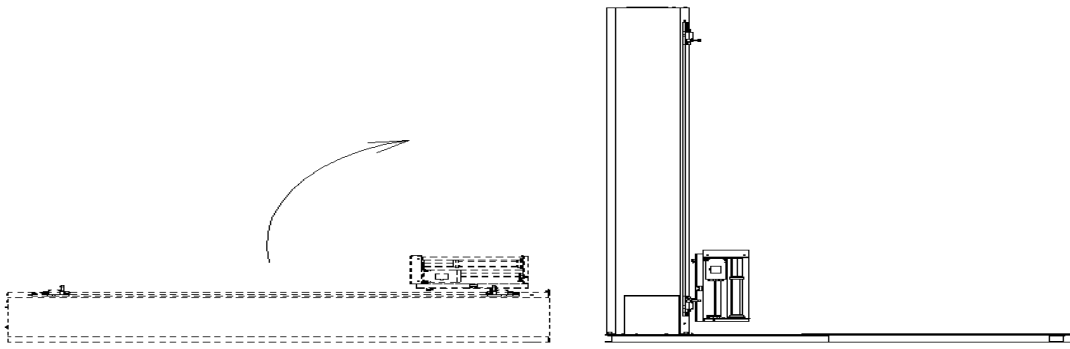
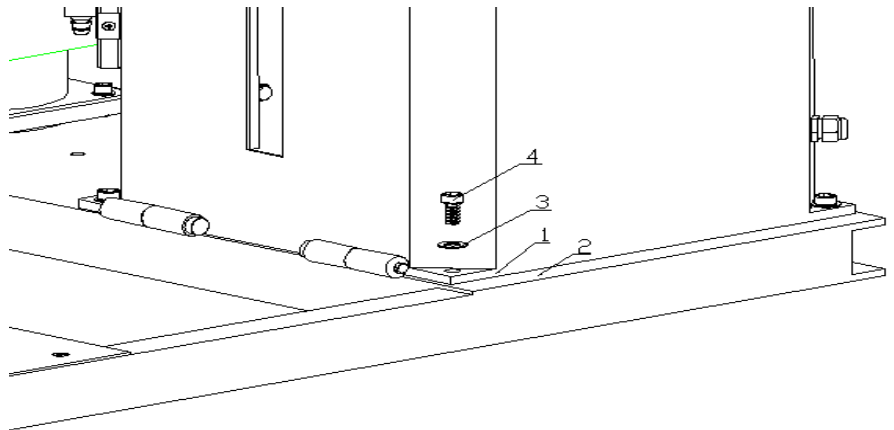

Fig.4-2
Fig.4-4
5. Assembling column (Fig.4-2;--- Fig.4-4)